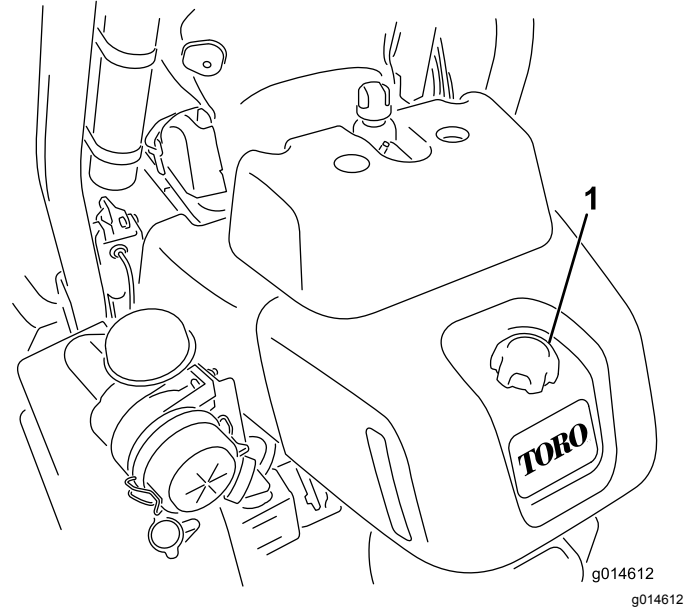

Figure 26
1. Clean around the fuel-tank cap (Figure 26).